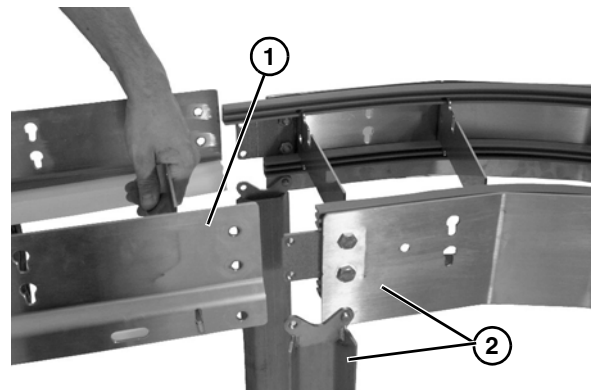

Figure 52
4. Lift up on straight section (**Figure 52, item 1**) and remove from curve section and conveyor stand (**Figure 52, item 2**). Be sure to support free end of straight section once removed.